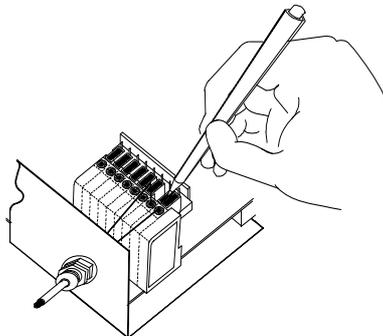

Figure 13 - System Cable Connections
- Using a device such as a screwdriver, push down on the lever directly next to the clamp (see Figure 13).